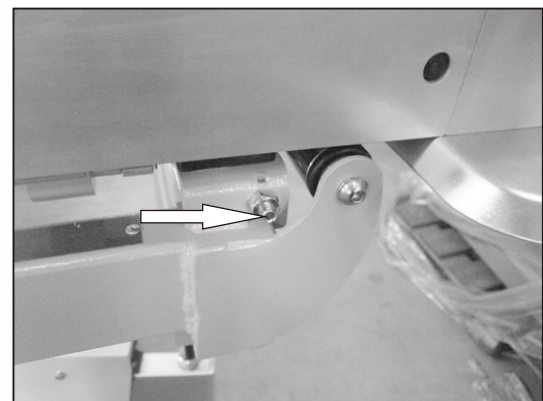

Fig.2
3. Adjust the nuts on Fig. 2 and 3 to measure the error of wood board; after adjustment lock the nuts..